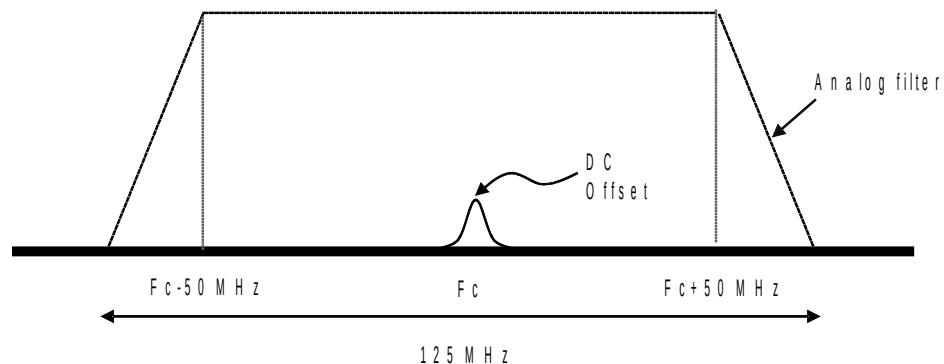

Figure 3: DC Offset with Amplitude Roll-Off at  $\pm 50\text{MHz}$
The R55x0's WB ADC sampling rate is 125 Msa/s, intermediate frequency (IF) is 0 and the entire IF bandwidth is 125MHz. The analog filter results in an amplitude roll-off at approximately  $\pm 50\text{MHz}$  around the center frequency  $F_c$ , as illustrated in Figure 3.